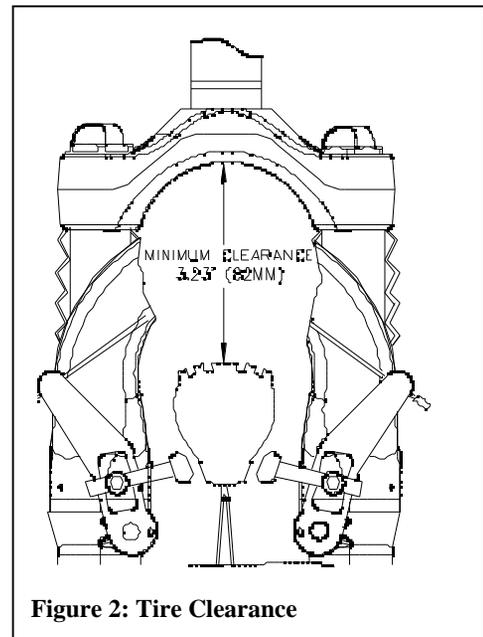

Figure 2: Tire Clearance
14. Check tire clearance with crown. Figure 2.